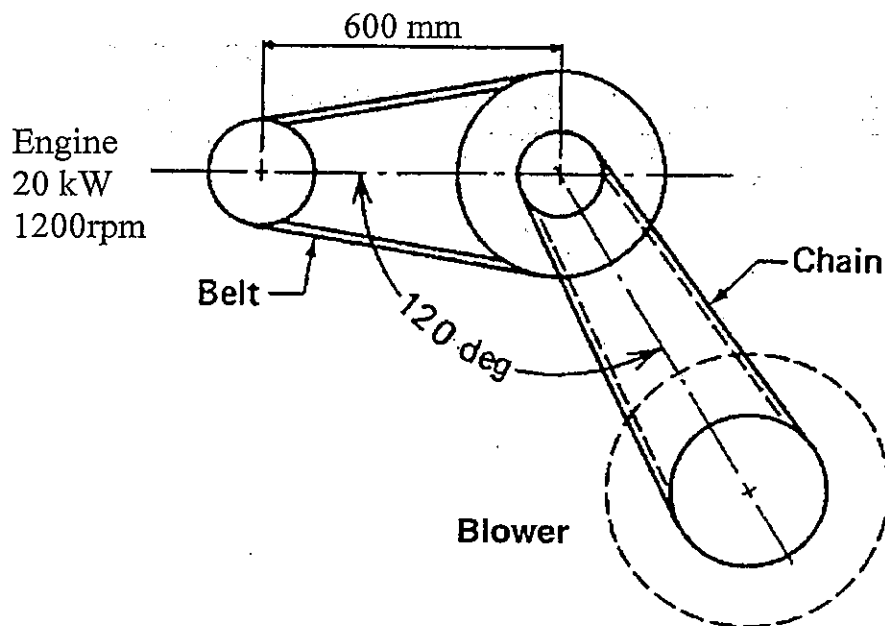

Figure 3
3. An engine transmitting 20 kW at 1200 rpm has its speed reduced in two steps as shown in Figure 3. First it is reduced by approximately 1.5:1 in a V-belt drive; next, a chain reduces the speed further. The driven sprocket is connected to a blower which runs at $355 \pm 5\%$ rpm. It is desirable to use an available V-belt pulley of 180 mm diameter as the driving pulley. The centre distance between the V-belt pulleys is approximately 600 mm. Triple-strand No. 50 roller chain is used for the chain drive.